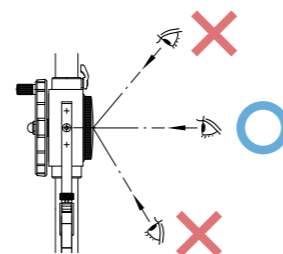

Fig. 2
1. Read the dial graduations from directly above to avoid parallax error. (Fig. 2)